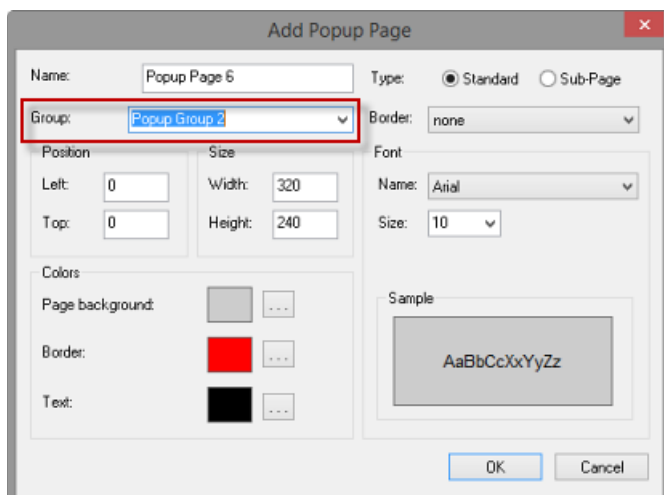

FIG. 62 Add Popup Page dialog - Group field
2. Enter a name for the new Popup Page Group in the *Group* text field (FIG. 62):